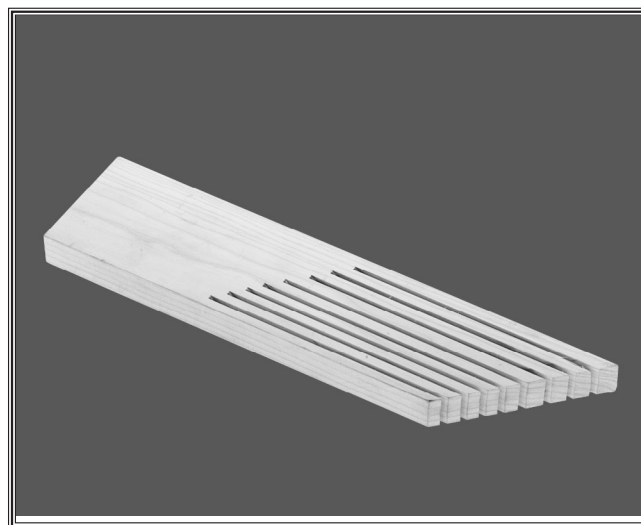

Figure 60. Anti-kickback featherboard.
- Featherboards similar to the one in **Figure 60** make good anti-kickback devices. To use these, they must be clamped to the table or fence. The angled ends and flexibility of the fingers allow the workpiece to move in one direction and lock up if the workpiece moves backwards.